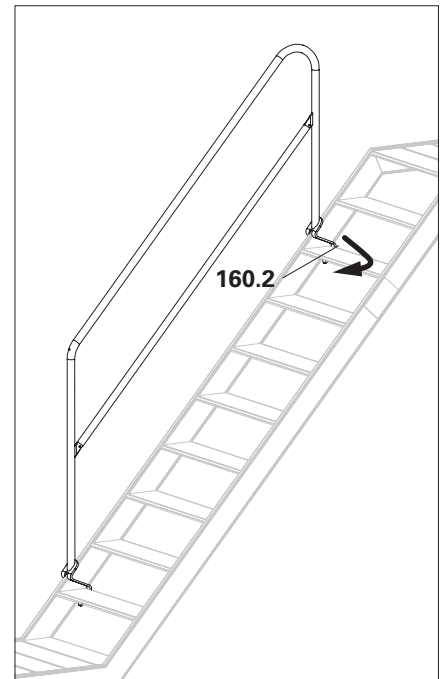

Fig. A8.06b
2. Lower the stair guardrail to the step and pull the mounting rings to the rear edges of the steps (**79.2**). (Fig. A8.06b)